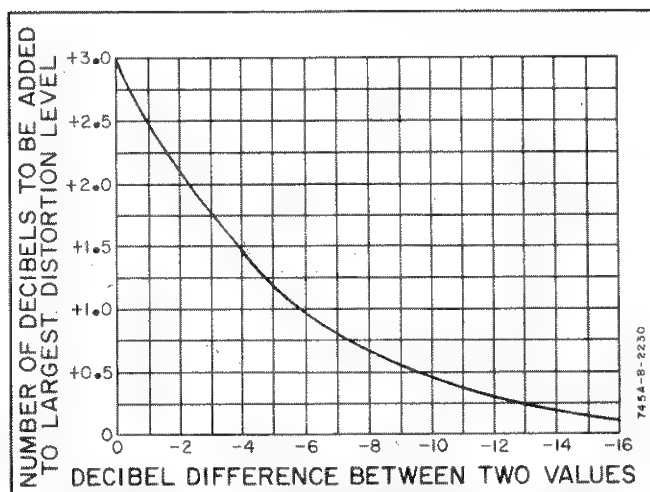

Figure 4-9. Logarithmic Addition of Harmonic Components.
m. Calculate the Total Harmonic Distortion using the graph shown in Figure 4-9. As an example: If the amplitude of the second harmonic is -110 dB and the third harmonic amplitude is -114 dB the dB difference between the two is -4 dB. Locate this number on the horizontal axis of the graph. The -4 line intersects the curve at approximately the $+1.5$ level on the vertical axis. The total harmonic distortion is therefore the amplitude of the largest harmonic (2nd harmonic) plus the number determined on the vertical axis (-110 dB $+ 1.5$ dB = -108.5 dB).
n. Calculate the Induced Harmonic Distortion using the graph shown in Figure 4-9.